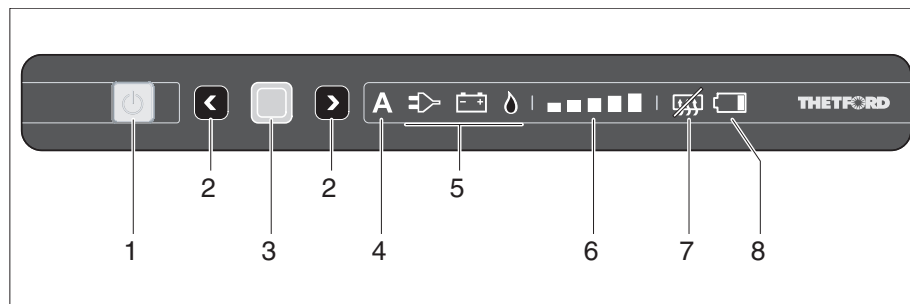

Fig. 323 Operating and display elements for the refrigerator (Thetford without SES)
- Press the button (Fig. 323,1).
- Press and hold the button (Fig. 323,1). All the lamps go out.
If automatic mode is selected, the automatic mode display (Fig. 323,4) and the best available source (Fig. 323,5) light up in the operating panel.
- Press and hold the confirmation button (Fig. 323,3).
The operating mode symbols (Fig. 323,5) begin to flash.
- Use the selection buttons (Fig. 323,2) to select gas operation and apply the selection by using the confirmation button (Fig. 323,3).
- Use the selection buttons (Fig. 323,2) to select 230 V operation and apply the selection by using the confirmation button (Fig. 323,3).
- Use the selection buttons (Fig. 323,2) to select 12 V operation and apply the selection by using the confirmation button (Fig. 323,3).
- Press the confirmation button (Fig. 323,3) again.
The cooling level display (Fig. 323,6) begins to flash.
- Use the selection buttons (Fig. 323,2) to select the desired cooling level and apply the selection by using the confirmation button (Fig. 323,3).